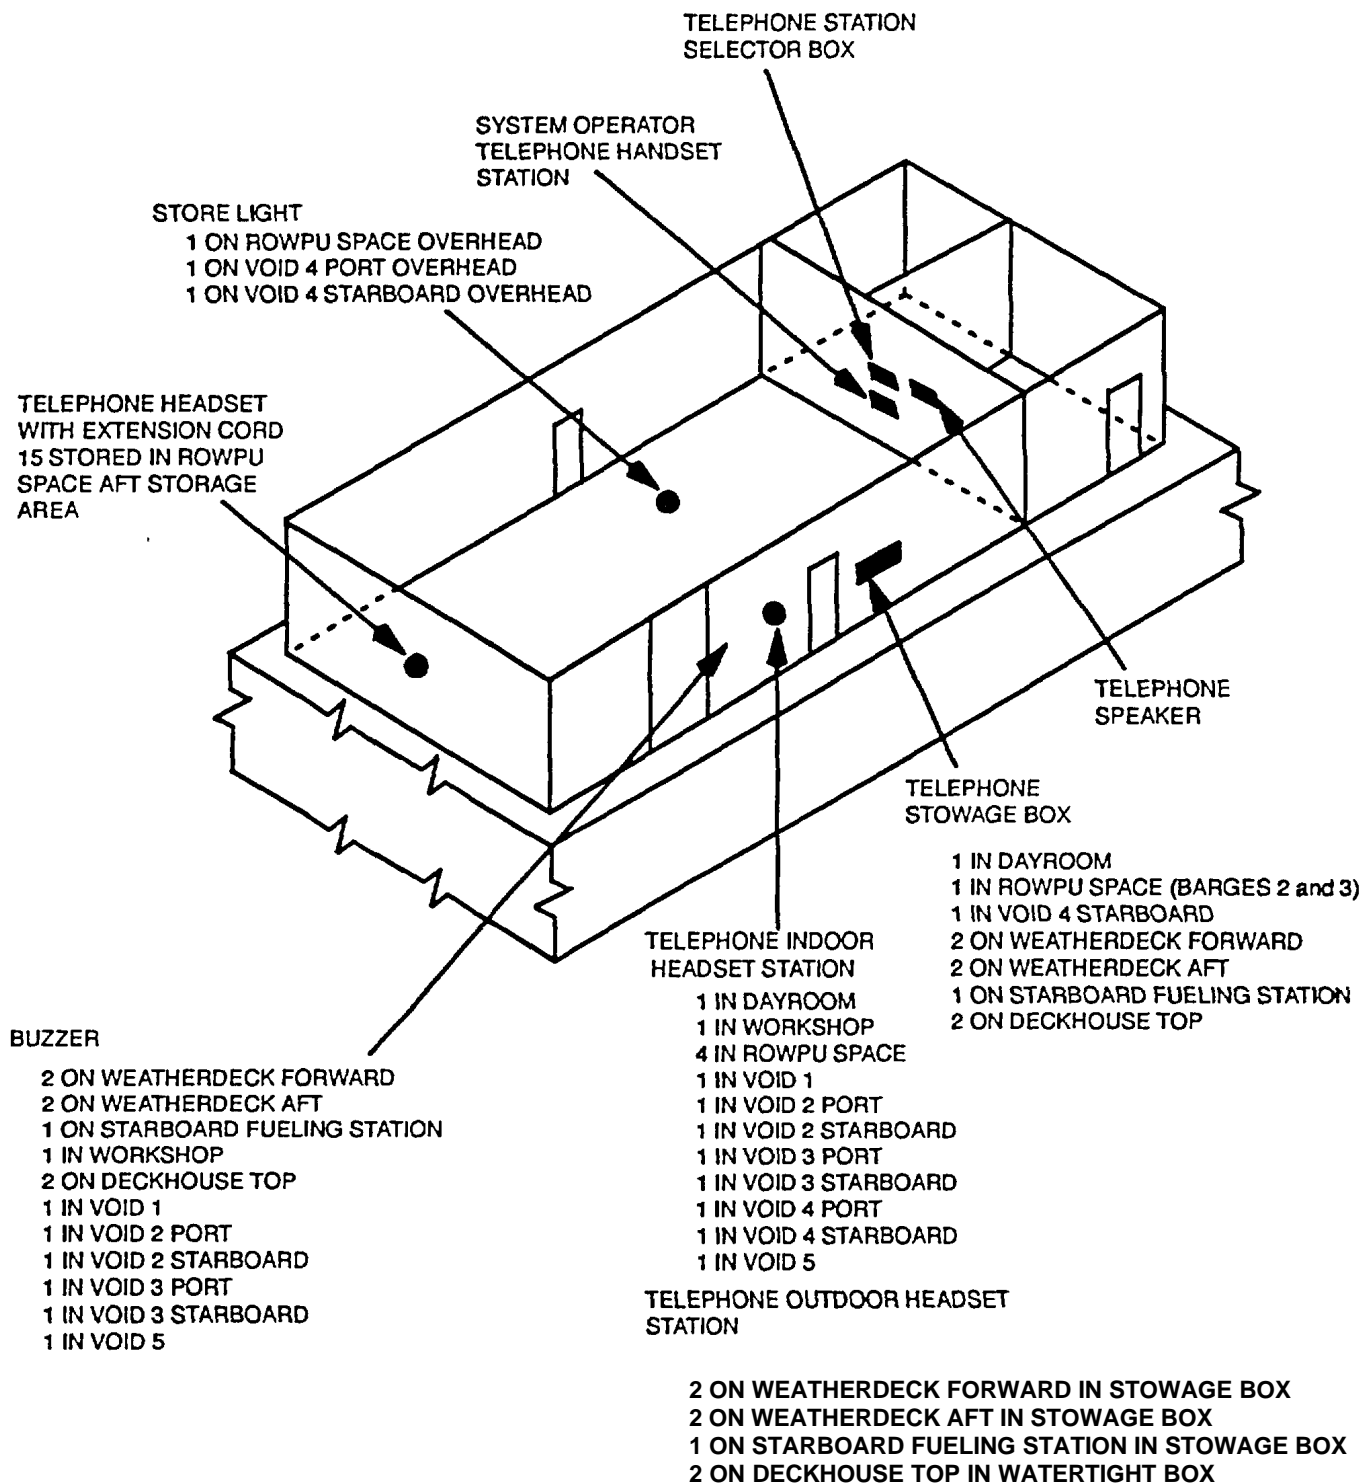

Figure 5-12. Telephone System Major Component Location
5-8 Description. The foghorn produces an omnidirectional sound to warn approaching vessels of barge location during periods of poor visibility. The foghorn shown in Figure 5-12 consists of the major components listed in Table 5-3. Equipment specifications, maintenance information, and manufacturers' service manuals are contained in TM 55-1930-209-14&P-12, Communications System.
5-13.1 Operating controls and Indicators. Foghorn controls are shown in Figure 5-12.
- a. Turn foghorn ON/OFF switch on remote control box (Figure 5-12) to ON.